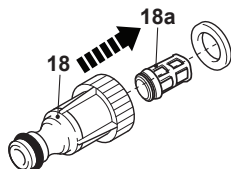

Fig. 25-1
- > Unscrew and remove the water inlet hose adaptor with water filter (18) from the water inlet (13).
- > Disassemble the water inlet hose adaptor with water filter (18) (Fig. 25-1).